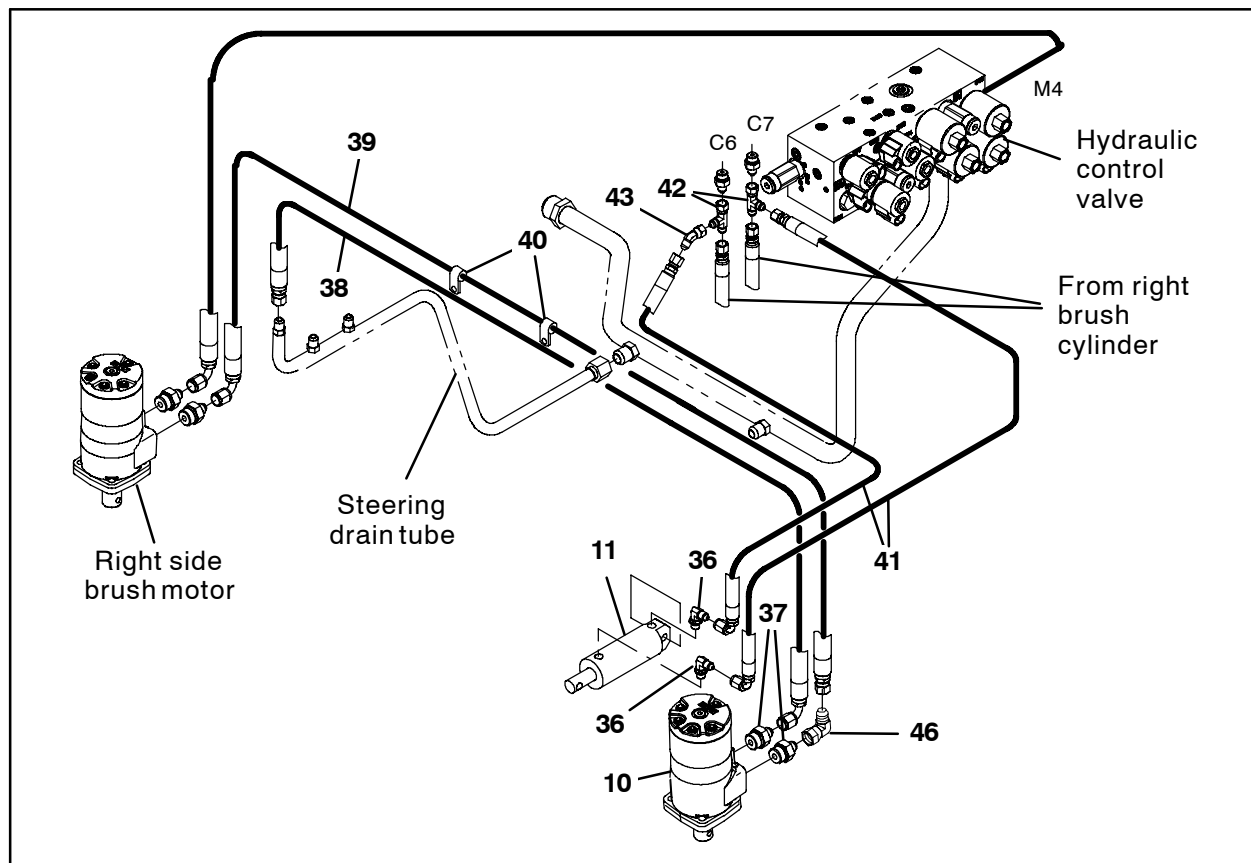

**FIG. 6**
16. Cut any cable ties securing the 134" hose connected to the right side brush to the machine. Refer to Fig. 6.
17. Disconnect the 134" hose from the right side brush motor and the steering drain tube. Discard the removed hose. Refer to Fig. 6.